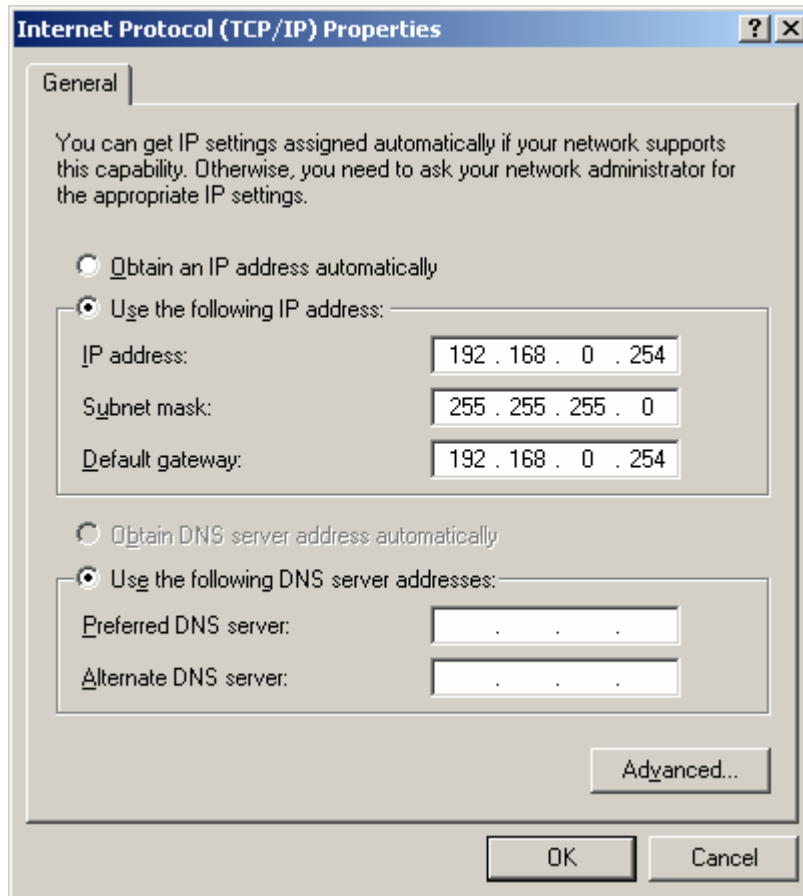

Figure 27: Internet Protocol (TCP/IP) Properties
3. Change the dialog box such that it looks like the settings shown in Figure 27; Internet Protocol (TCP/IP) Properties on page 39. Then press OK until the dialogs are all closed.